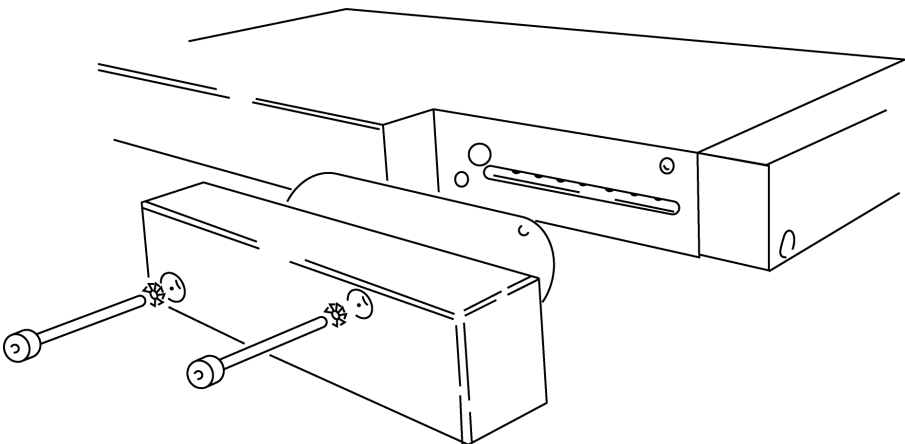

Figure 10: Wash head inlet channel seal block
Step 1 Open the inlet channel seal to get access to the wash head inlet channel (see Figure 10).